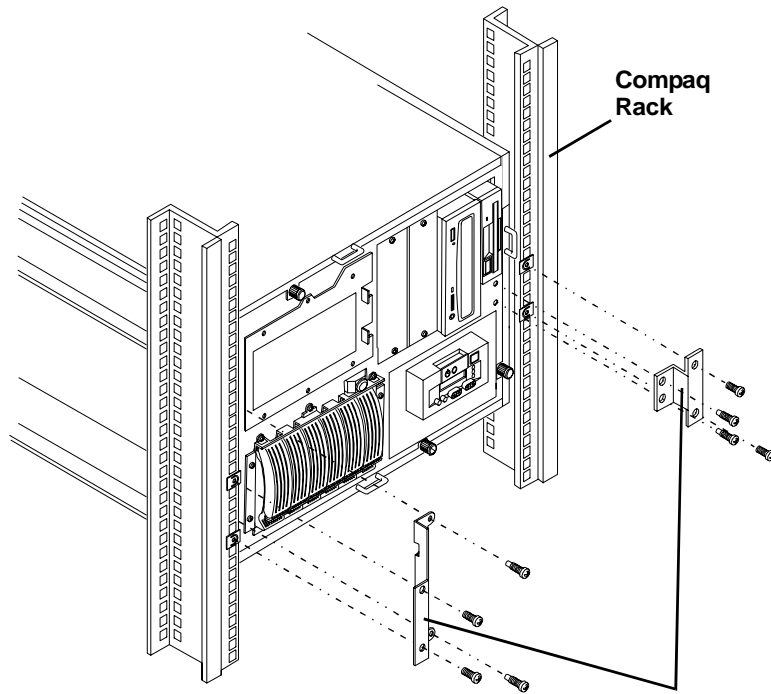

Figure 3-7. Mounting Hardware for Front Bezel for Compaq Rack
- ◇ **For the Compaq rack**, the bezel mounting hardware is the left and right recessed brackets, as shown in Figure 3-7. The left recessed bracket is a long part with four screw holes. The right recessed bracket is a small metal part with four screw holes, but no latch. Attach this hardware as described in the *HP NetServer LH 3r, LH 4r, LH 3000r, and LH 6000r Installation Guide for Compaq® 4000/7000 Racks*.